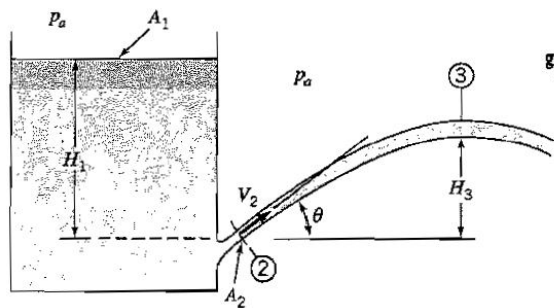

Figure P4.38
4.38 A large tank issues a jet of water from an orifice at a depth H below the surface, as shown in Figure P4.38. The orifice has an exit area A_2 and it points upwards at an angle of θ to the horizontal. Assuming that $A_1 \gg A_2$, and that there are no losses,